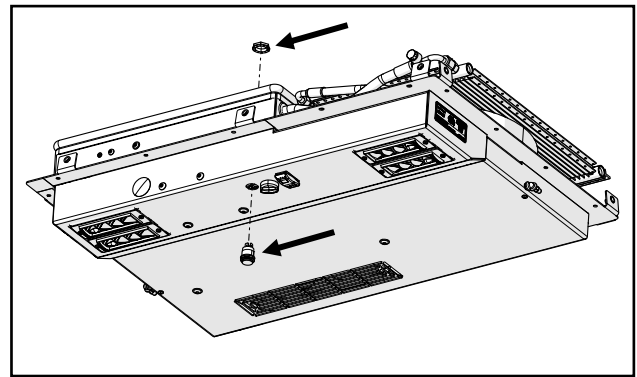

Fig. 3.3 (Button Installation)
- 3.3 Per Figure 3.3, remove the plastic hole plug on the underside of the air conditioner next to the rotary and rocker switches. Replace this plug with the red push button found in the hardware box in the alternator kit.